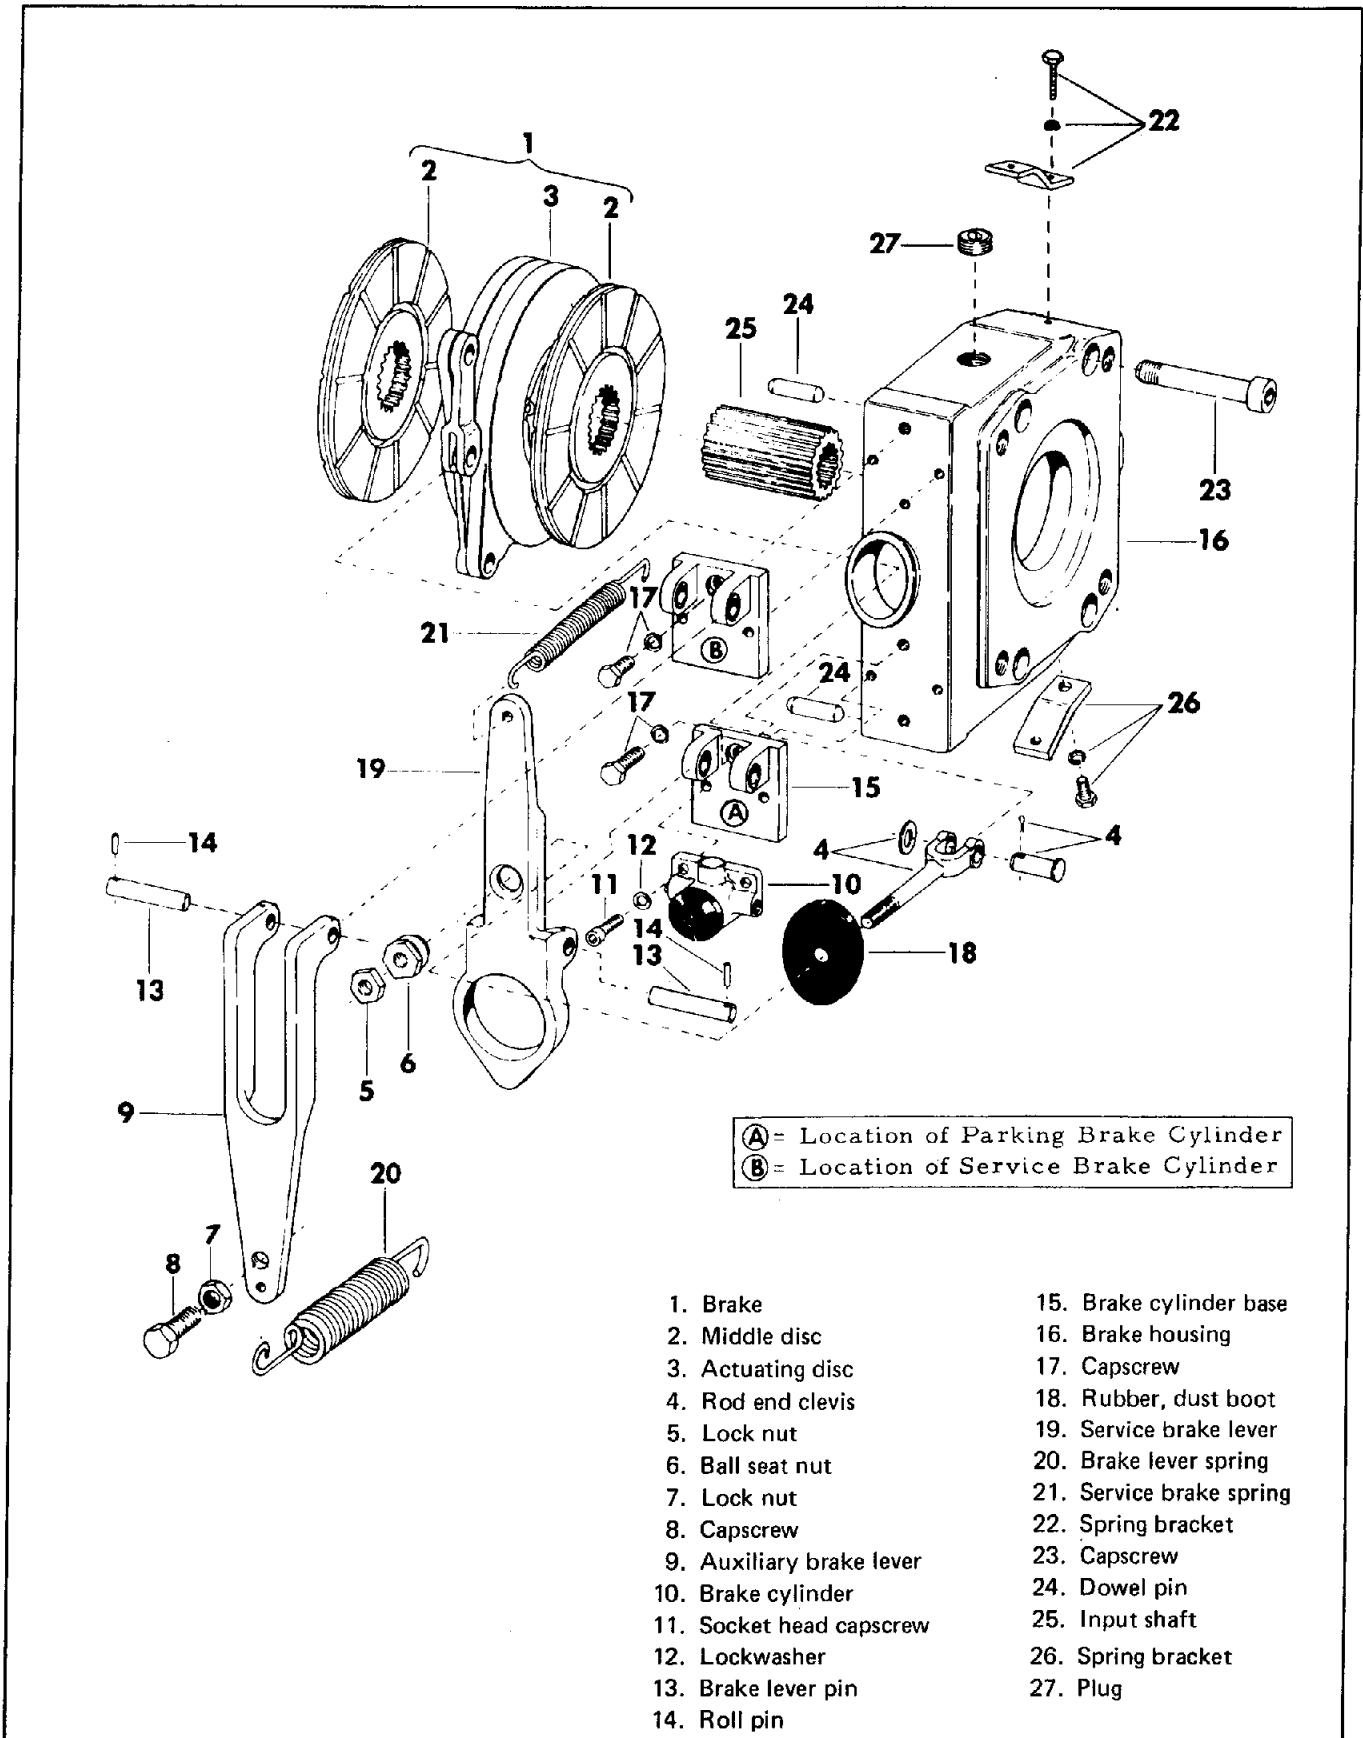

Figure 43. Drive Brake
Refer to Figure 43 and proceed as follows:
3. Refer to Figure 43 and position housing and attach with four bolts.
4. Install brake assembly (1) into housing along with attaching parts as shown in Figure 43.